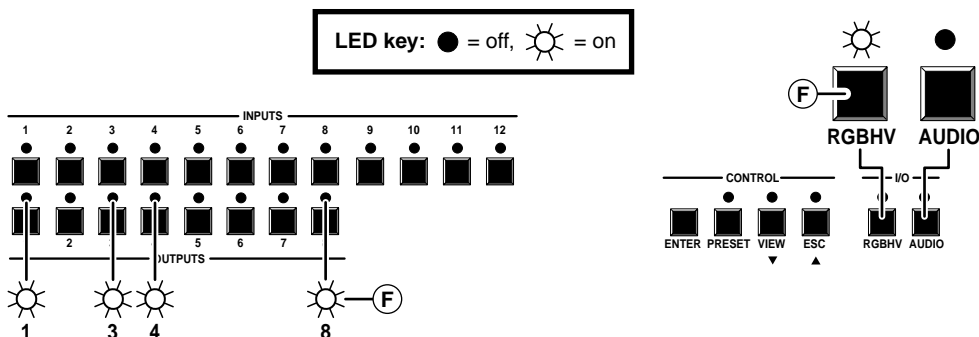

Figure 26 — Example 4f: Viewing the current configuration, video-only
- (F) Press and release the RGBHV and Audio buttons to toggle the Video LED on and the Audio LED off (figure 26).